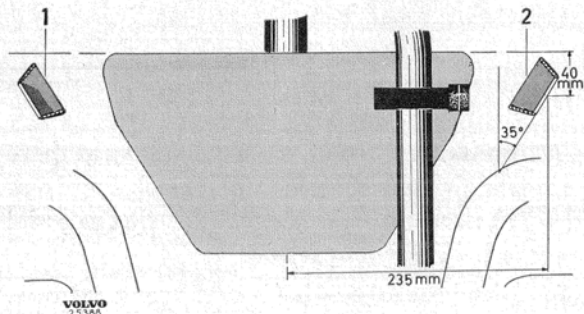

Fig. 34. Location of brackets.
1. If the car was previously equipped with cables without outer casings, first weld the retainers supplied in set no. 276354 onto the body floor as shown in Fig. 34.